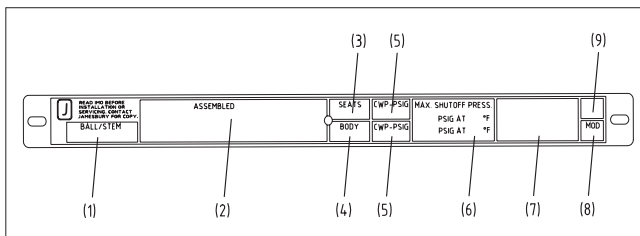

Figure 1. Identification plate
The valve has an identification plate (22) attached to the flange (see Figure 1).